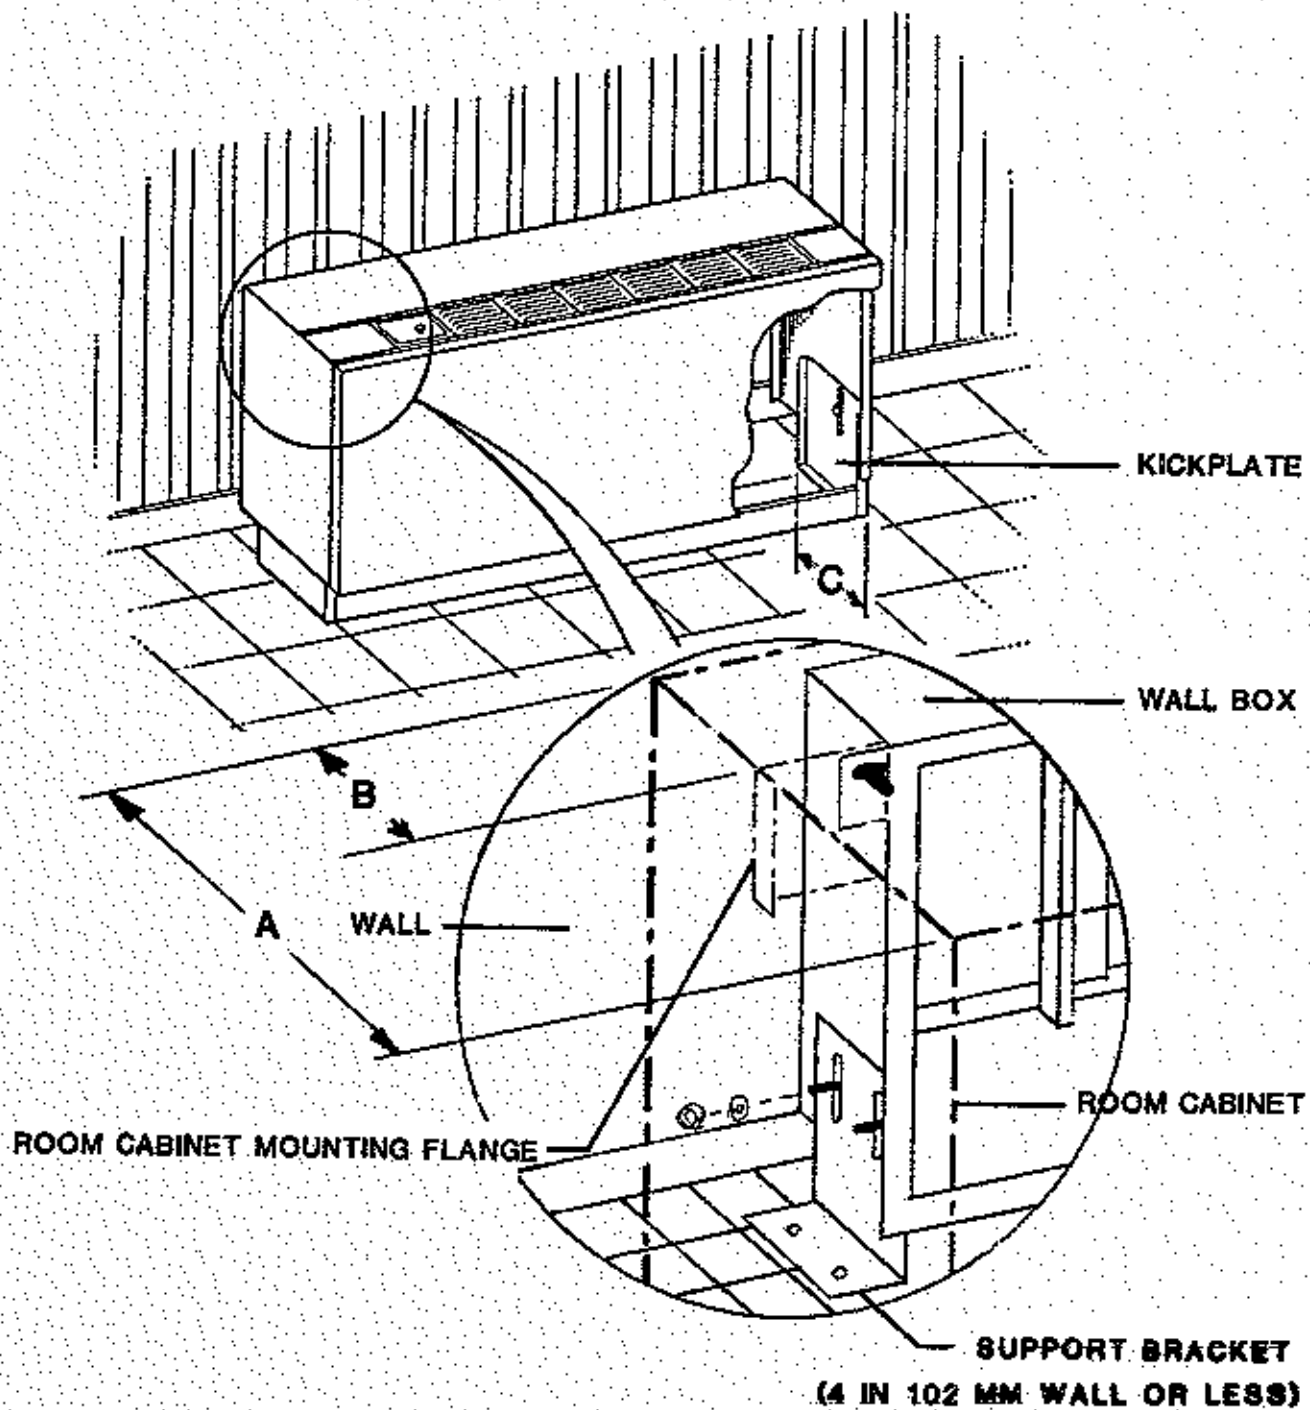

FIGURE 1
The smallest wall box available is a 10" (254) wall box. When used in a thin wall application, this wall box is mounted flush to the outside wall. Part of the wall box will extend into the room, seen as dimension B in Figure 1. If the wall is 4" (102) deep or less, support brackets are required. As with all installations, the wall box must be installed with the top level.